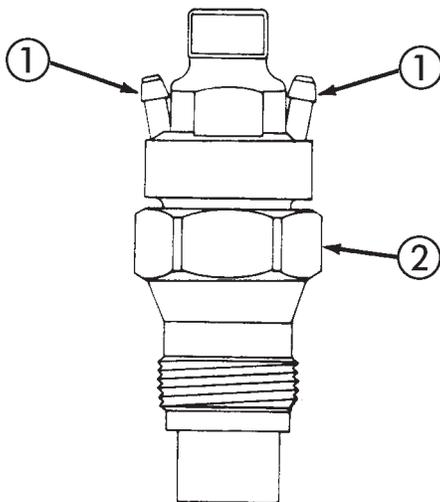

Figure 3-6. Fuel Injector Nozzle.
X. FUEL INJECTOR NOZZLE TEST (TEST STAND) (Figure 3-6)
- a. Connect fuel injection nozzle (2) to tester.
- b. Connect lines to return line nipples (1).